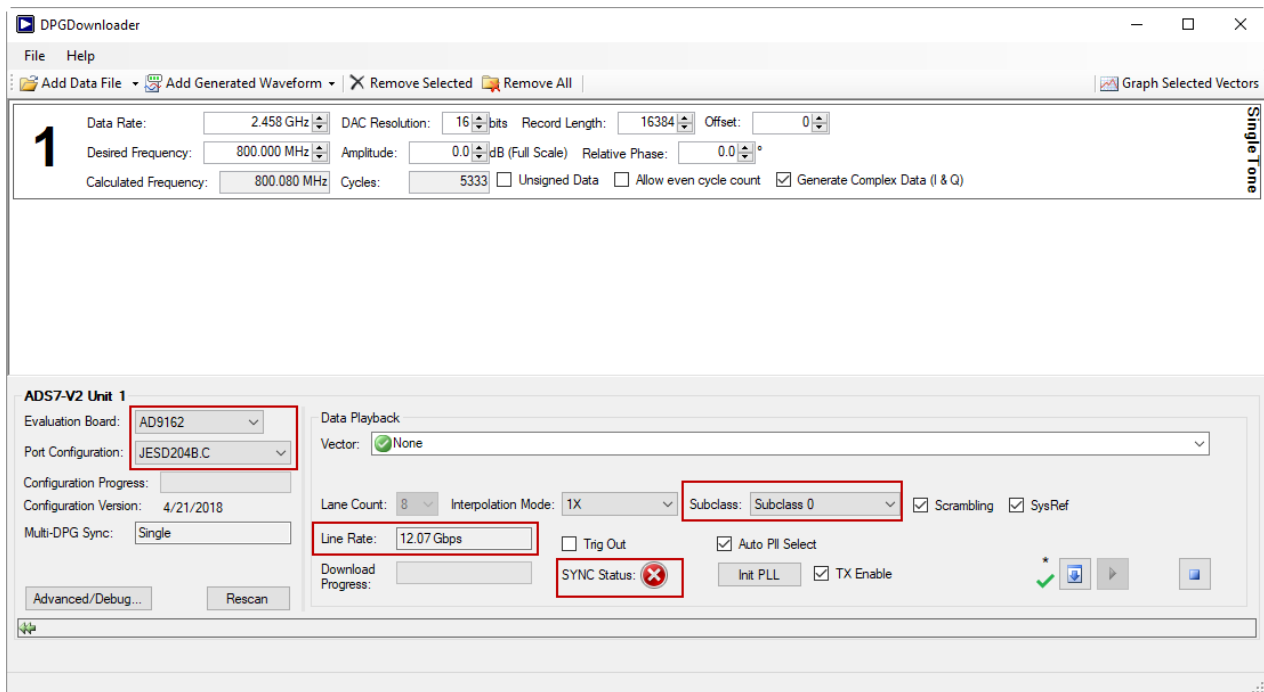

Figure 9. DPGDownloader Configuration for the AD9161, AD9162, AD9163, and AD9164
4. In the lower portion of the screen, choose **Subclass 0** from the **Subclass** dropdown menu. The **SYNC Status** may show a green check mark or a red cross. See Figure 9.